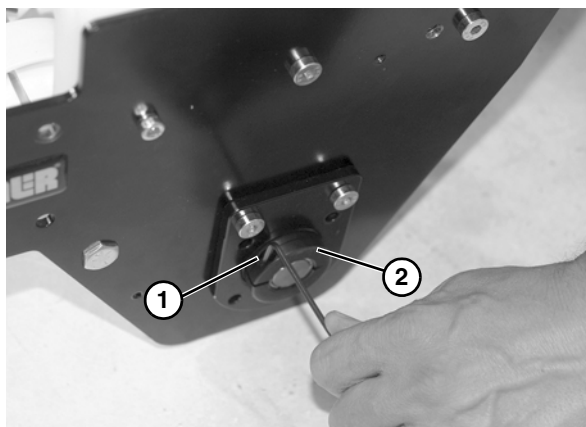

Figure 52
8. Loosen the bearing collar set screw (Figure 52, item 1) and remove bearing collar (Figure 52, item 2).